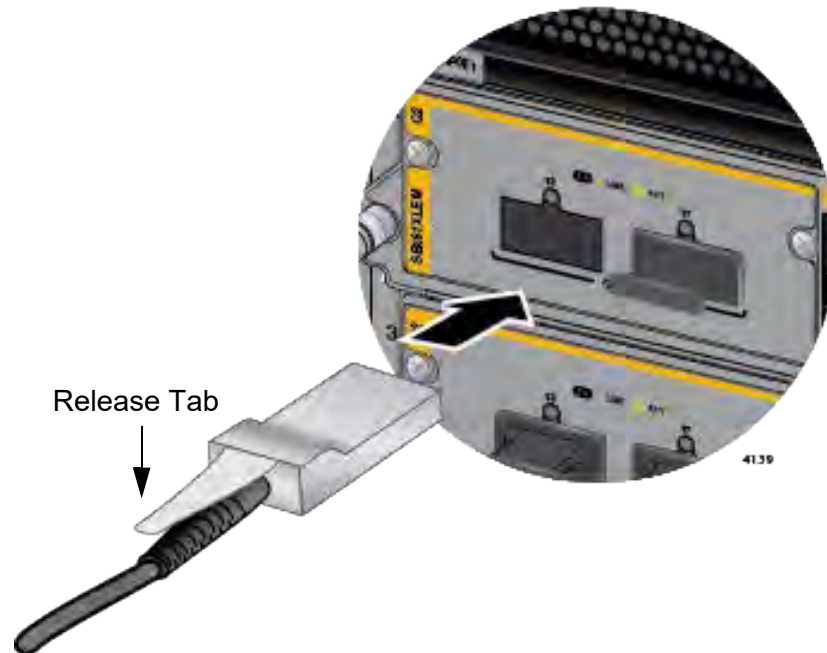

Figure 111. Sliding the AT-QSFPCU Cable into the Slot
2. Orient the connector on the AT-QSFPCU Cable with the release tab on top and slide it into the slot until it clicks into place. Refer to Figure 111 on page 184.